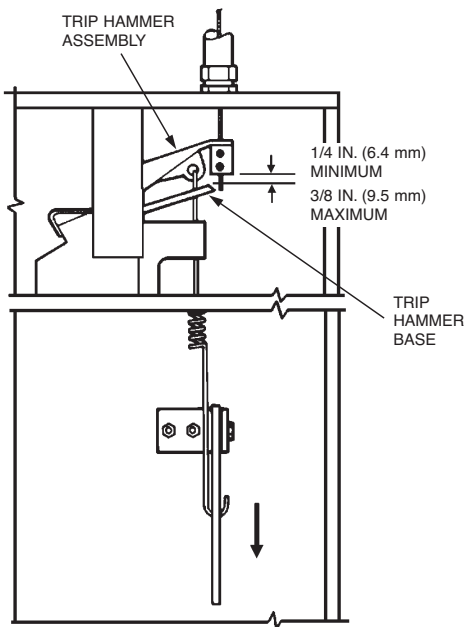

FIGURE 18
28. Inspect the base of the wire rope clamping device to make certain that there is a minimum of 1/4 in. (6.4 mm) and a maximum of 3/8 in. (9.5 mm) clearance between the base of the trip hammer assembly and the cable lever assembly. See Figure 18.